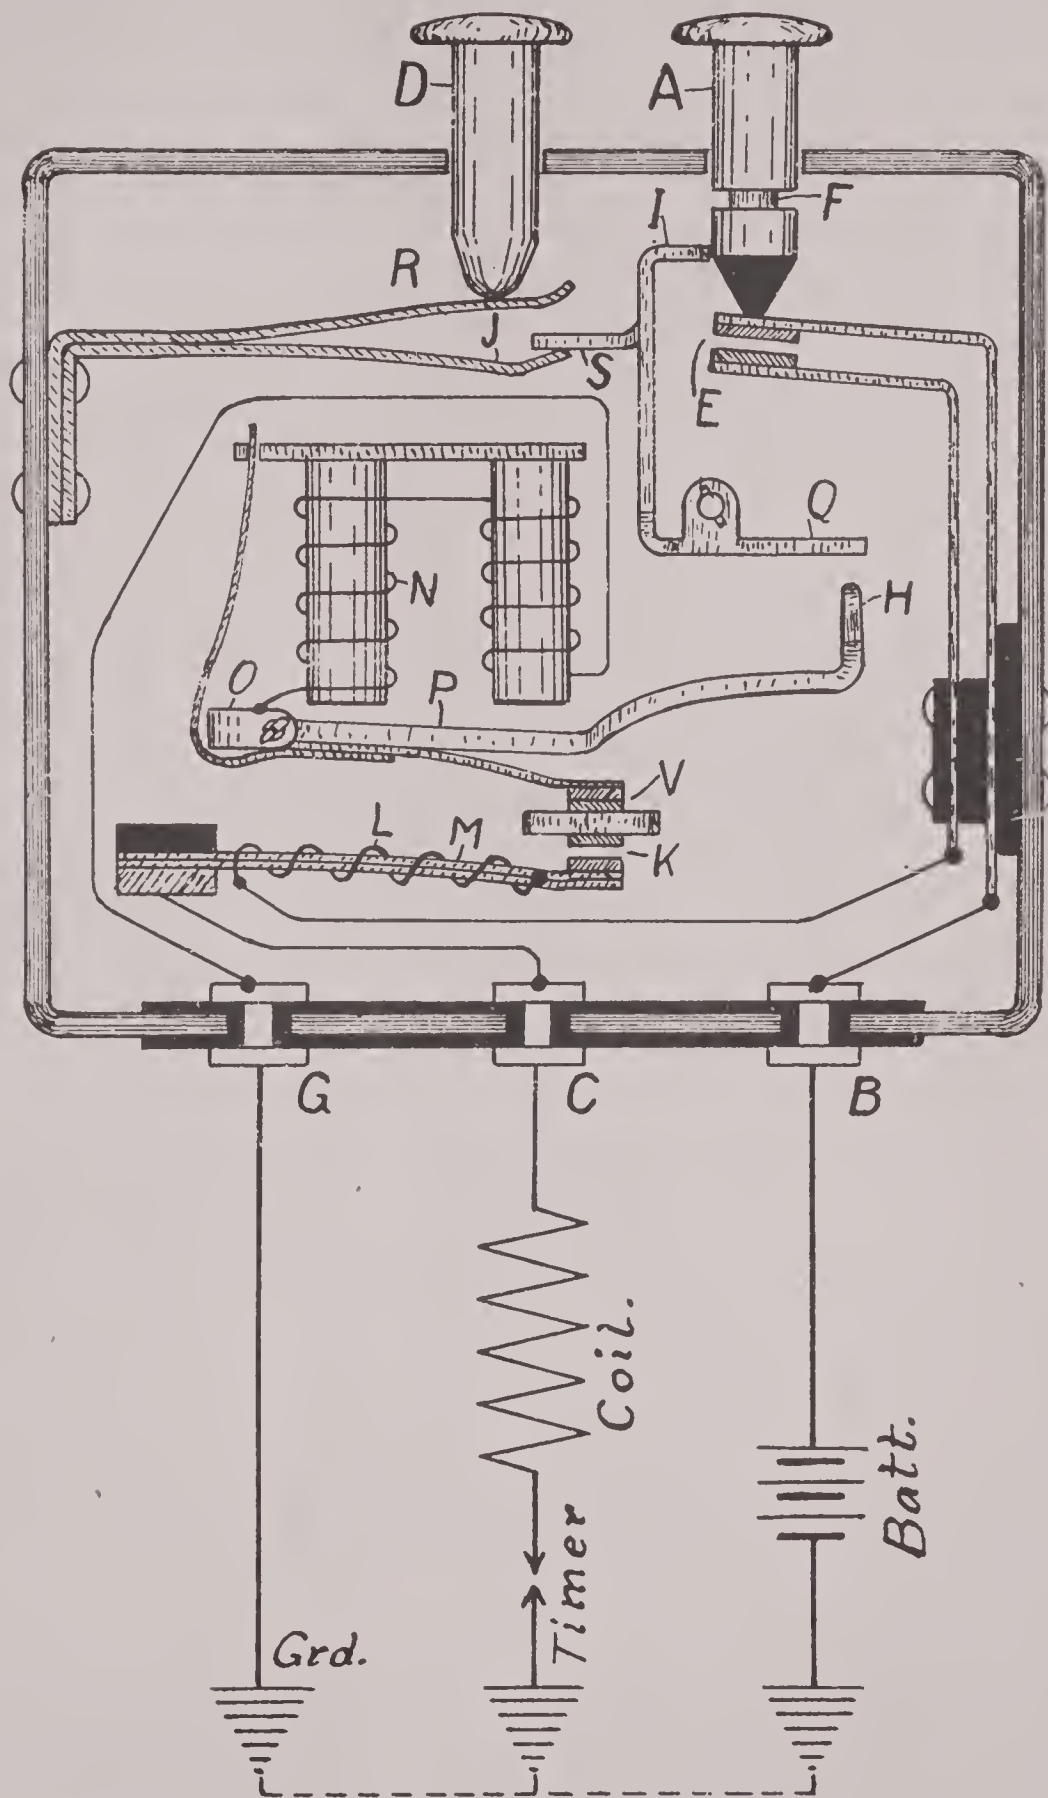

FIG. 314
Fig. 314 shows the mechanism of a typical Connecticut Automatic Ignition Switch. These switches are operated by a thermostat.
A thermostat consists of two blades of unlike metal, as (M) Fig. 314, usually brass and steel, either welded together throughout their entire length, or riveted together at their ends. Brass expands more than steel when heated; consequently, the blades will bend in such a direction that the brass becomes longer. In the illustration, the lower blade of the thermostat would be the brass blade and the upper one the steel blade.